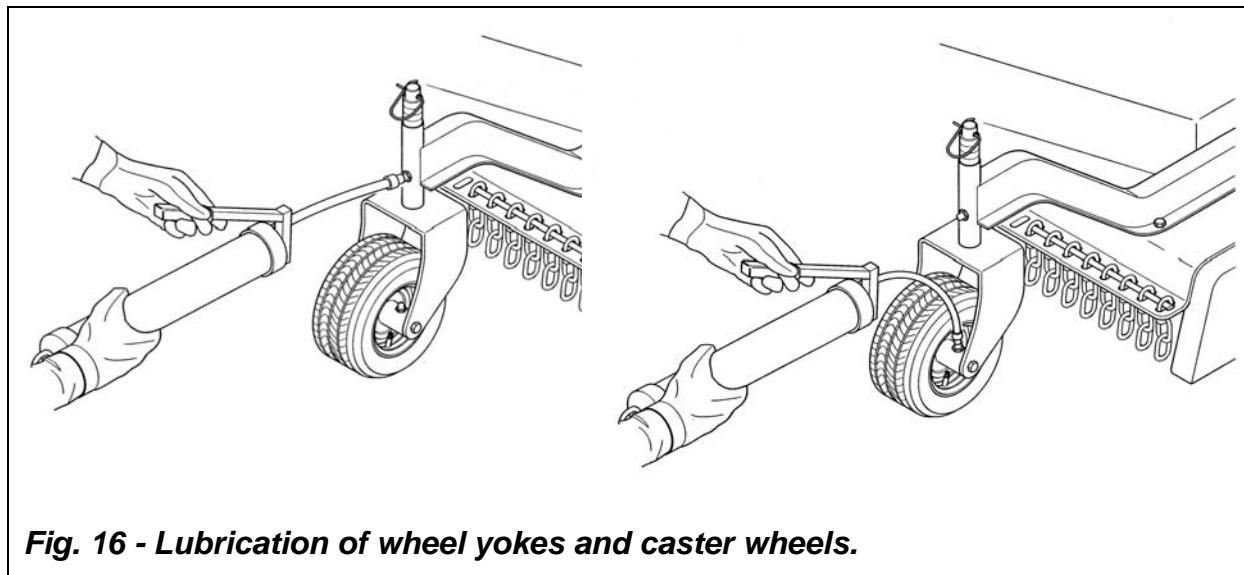

Fig. 16 - Lubrication of wheel yokes and caster wheels.
1. **Lubricate drivelines, lubricate caster wheels, wheel yokes and frame pivot points;** apply two or three shots of grease to the driveline cross and bearings and the telescoping shafts; apply the same amount to the wheel arm grease fittings, the wheel grease fittings (**see fig. 16**) and the frame grease fittings (**see fig. 15, #1-10 for lubrication points**). See the driveline manufacturer operator's manual for further information on the drivelines.